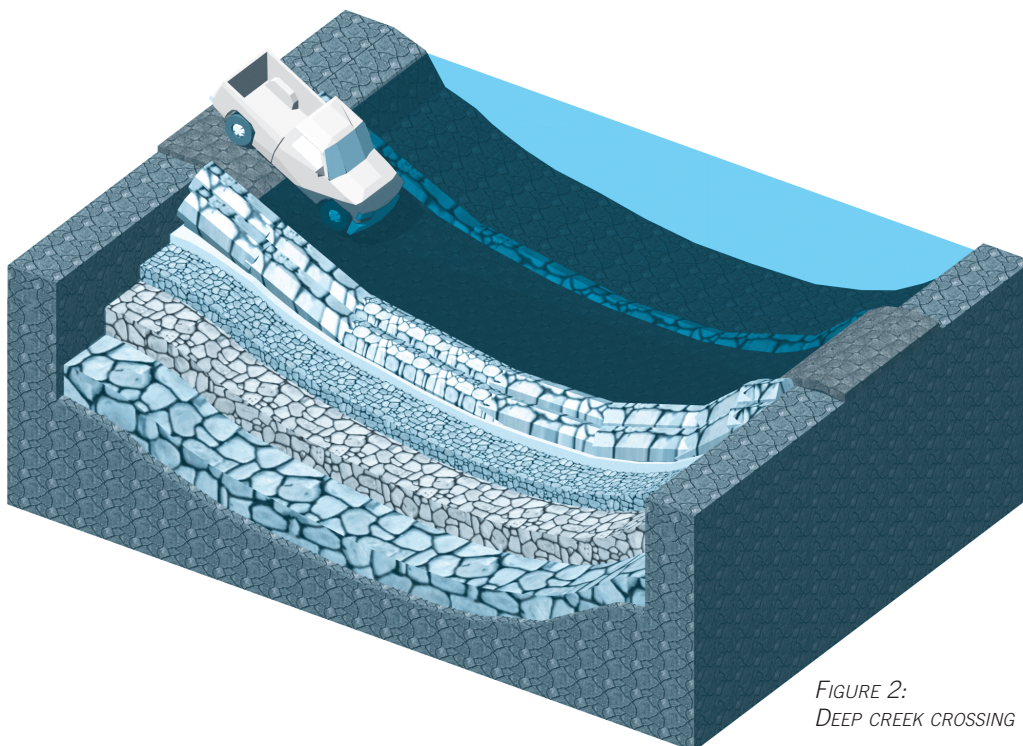

FIGURE 2:
- Lay gabions (graded rocks in mesh mattresses) or rock beds along the edge of the road pavement across the causeway, from bank to bank. These should be approximately two to three meters wide each side. (see figure 2)